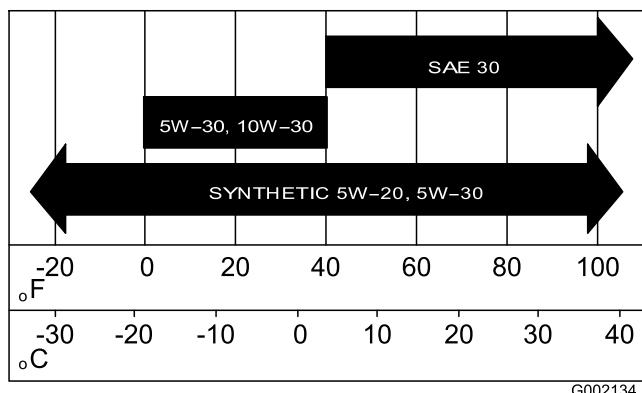

Figure 31
5. Fill the crankcase with new oil of the specified type and viscosity; refer to Figure 31 in Changing the Oil (Models 07273 and 07273TC) (page 29).